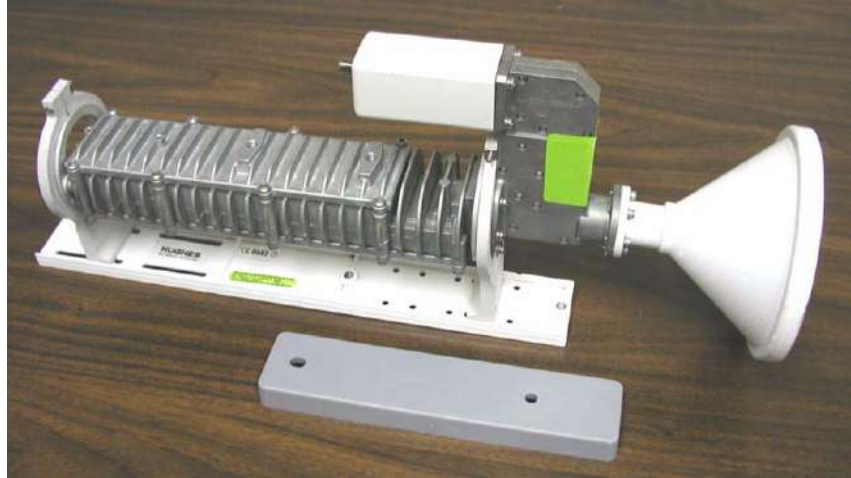
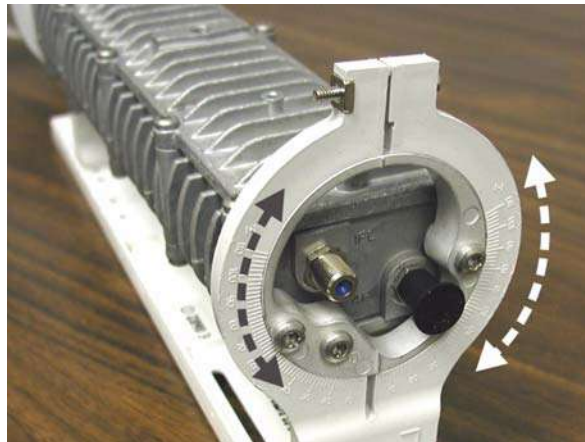

Figure 12: Cradle-type radio assembly (shown with mounting adapter)
Figure 13: Cradle-like rotation of the cradle-type radio assembly
***Cradle-type radio assembly*** Figure 12 illustrates the *cradle-type* radio assembly. The main parts of the radio assembly are mounted on two circular brackets so they can be rotated, similar to the movement of a cradle, to set the polarization of the feed horn. The arrows in Figure 13 indicate how the radio assembly can be rotated.